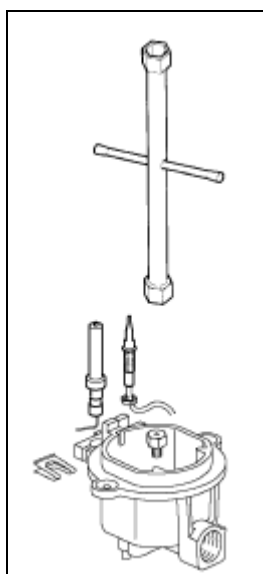

fig.12
- 4) Unscrew the nozzles using a 7 mm spanner, and replace them (Fig.12) with those needed for the new type of gas according to what is indicated in Table 1